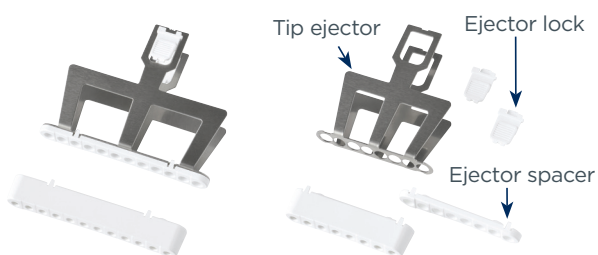

Figure 12
7. Reassemble the pipette (refer to the Figure 12 on page 14).
6. Reassemble the pipette (refer to Figure 12 on page 14).
6. Reassemble the pipette (refer to the Figure 12 on page 14).
1. Disassemble the pipette (refer to Figure 12 on page 14).
3. Reassemble the pipette as described (refer to Figure 12 on page 14).